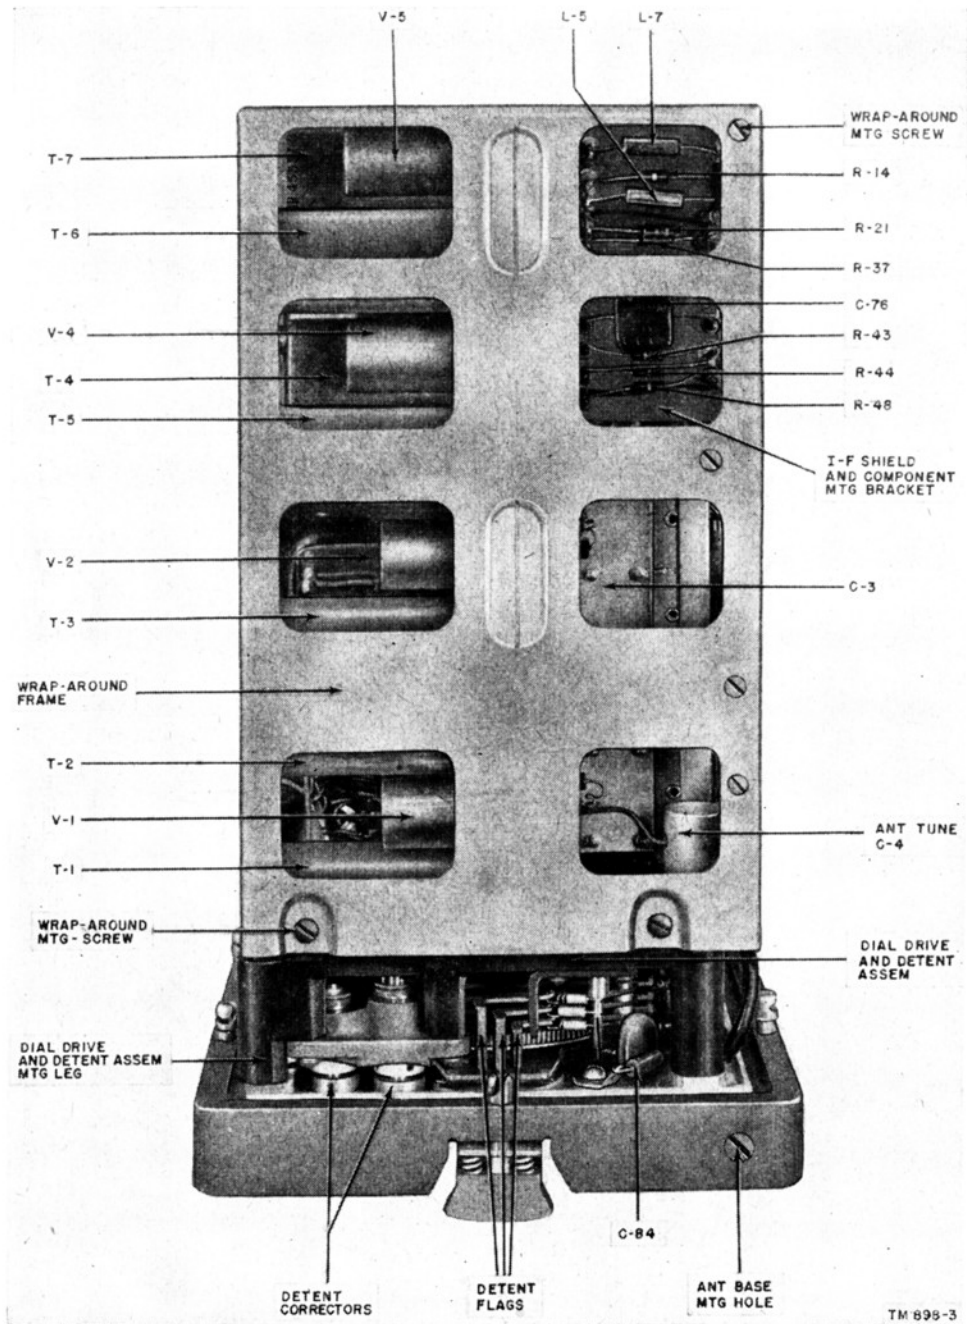

Figure 3. Typical radio receiver, case removed, top view of panel-and-chassis assembly.
a. Figures 3 through 6 are views of a typical one of the three receivers without the outer case. A disassembled view of the unit is shown in figure 25. The receiver panel-and-chassis assembly consists of four major separable parts. These are the front panel, dial drive, power supply compartment, vertically mounted chassis, and wrap-around frame. No solder connections are made between the chassis and the panel or between any of the separable parts. A multiconnector P-5 and J-5 and two coaxial cables fitted with coaxial plugs P-1, J-1 and P-4, and J-4 establish continuity between the panel controls and connectors and the chassis circuits. The panels of the three receivers, less dial-drive assembly, are completely interchangeable. The dial markings are different for each receiver, since a different frequency range and a different number of channels are involved in each. The dial-drive and detent assemblies, with the exception of the dial scale, are the same for all three receivers. The vertical chassis differs only in the r-f (radio-frequency) determining components. The i-f (intermediate-frequency) and audio circuits are identical in all three receivers.